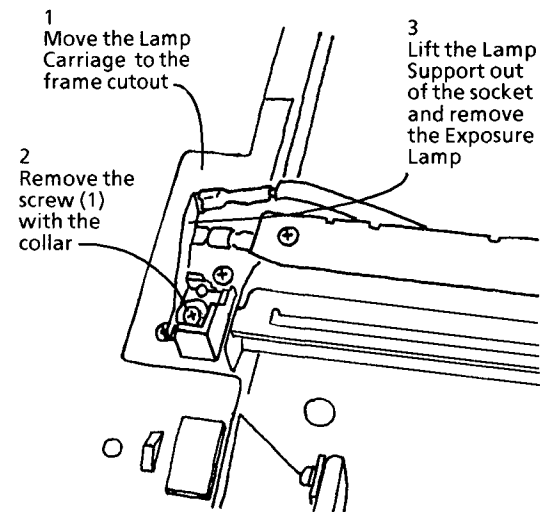

Figure 1. Removing the Exposure Lamp
3. Remove the Exposure Lamp (Figure 1).